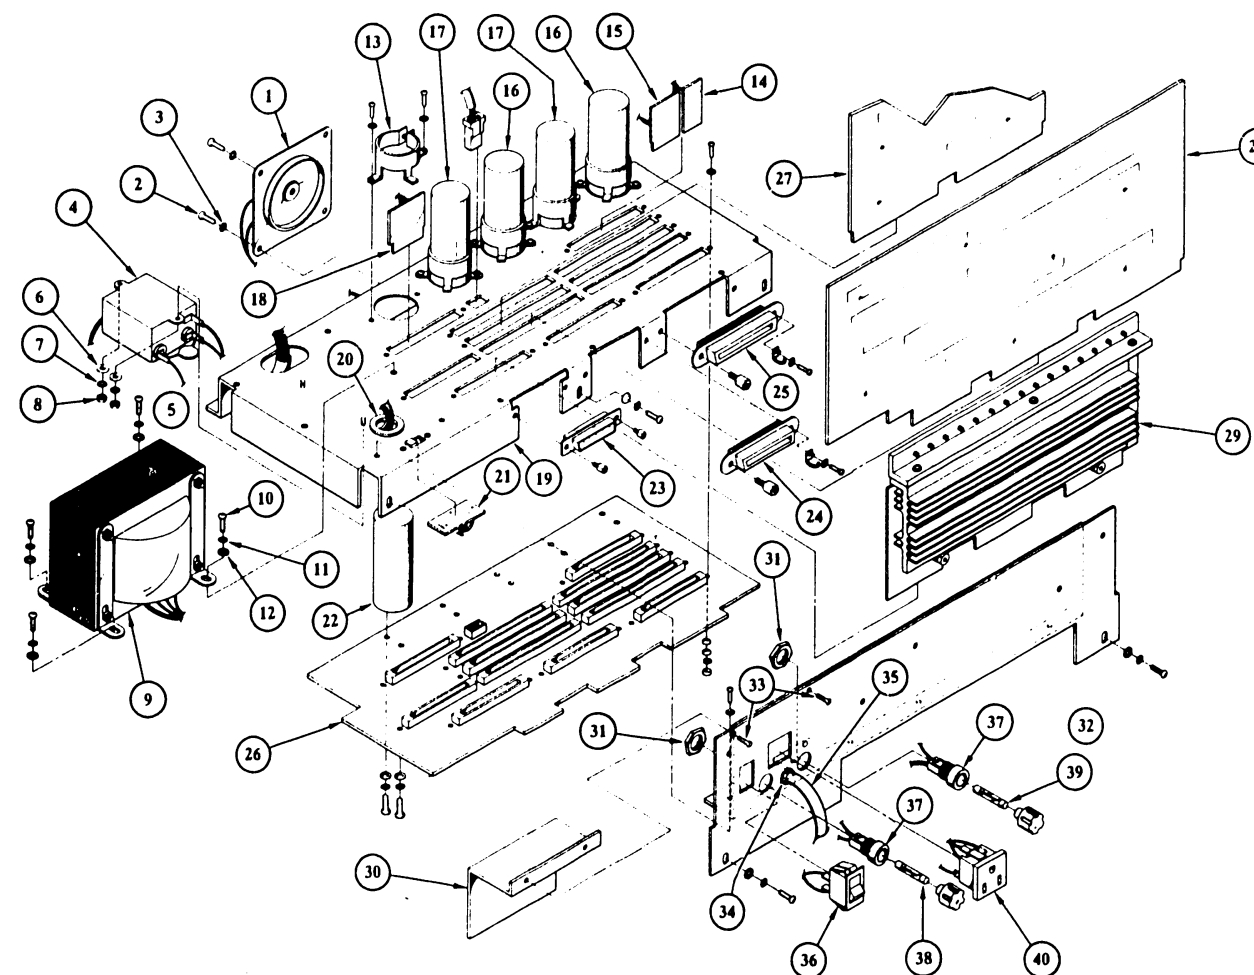

FIGURE 8-9 CHASSIS ASSEMBLY
**8.3.9 CHASSIS ASSEMBLY PARTS LIST (SEE FIGURE 8-9)**